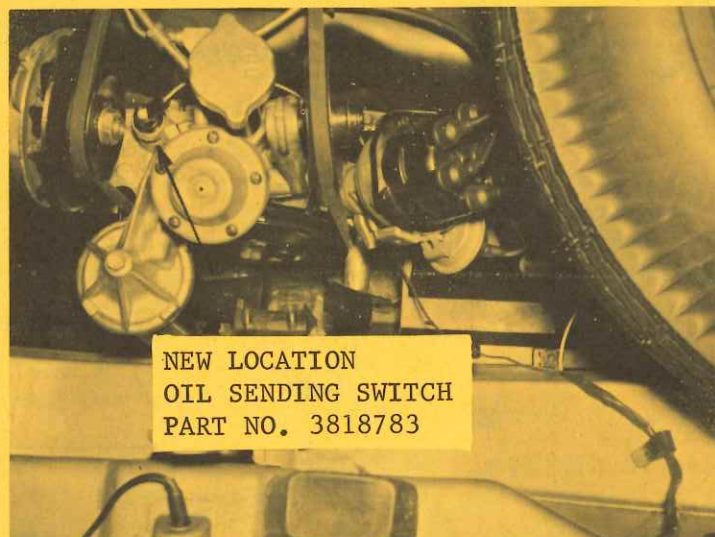

FIGURE 4
3. Install new switch, Part No. 3818783 in the oil filter adapter assembly as shown in Figure 4. Torque switch to 8-12 ft./lbs.